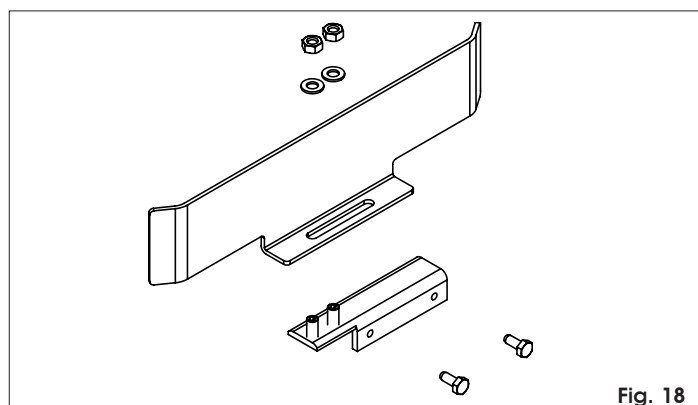

Fig. 18
- 1) Fit and secure the 2 profiled steel plates on the 2 U-supports, using the supplied nuts and washers, as shown in figure 18.